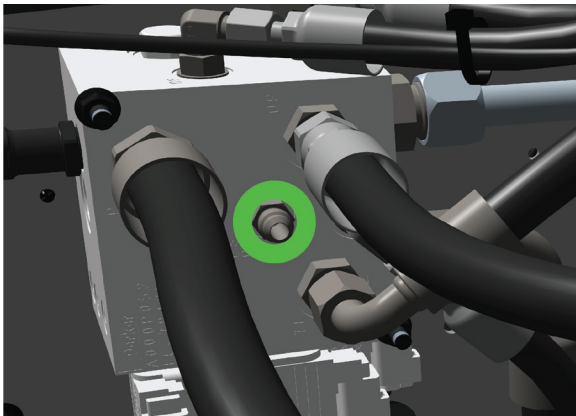

Figure 2 - Hydraulic Manifold
6. Install straight fitting (A001P053) on hydraulic manifold where hydraulic hose was disconnected in Step 5. See Figure 2. Final tighten straight fitting to 21 ft lbs.